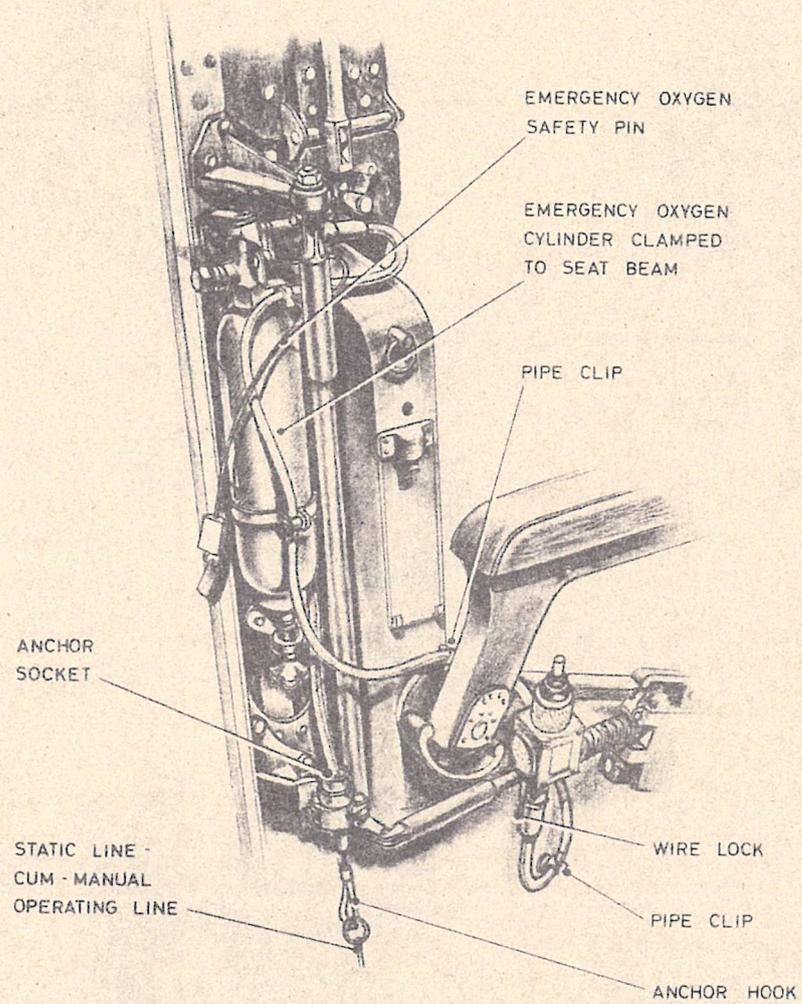

Fig. 1. Arrangement of emergency oxygen supply
26. The following procedure is to be used when installing the equipment in the seats; refer to fig. 1 to 8 for detail as necessary:-